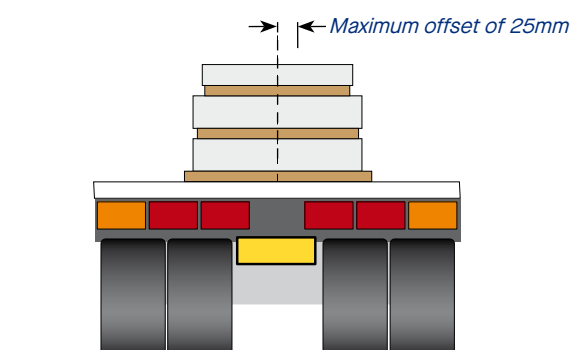

Fig 3.7: Slit coils to be stacked centrally on truck and to one another.
- ✓ Slit Coils **MUST** be stacked centrally above each other. (Maximum offset allowed is 25mm from the centreline of the base coil). (Fig. 3.7)